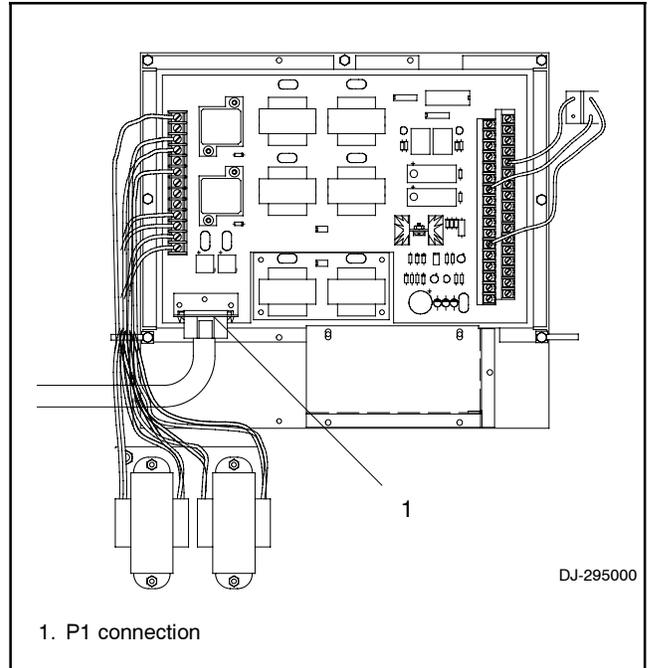

Figure 10 Disconnect P1
10. Disconnect the contactor harness from the M340 controller at plug P1. See Figure 10.